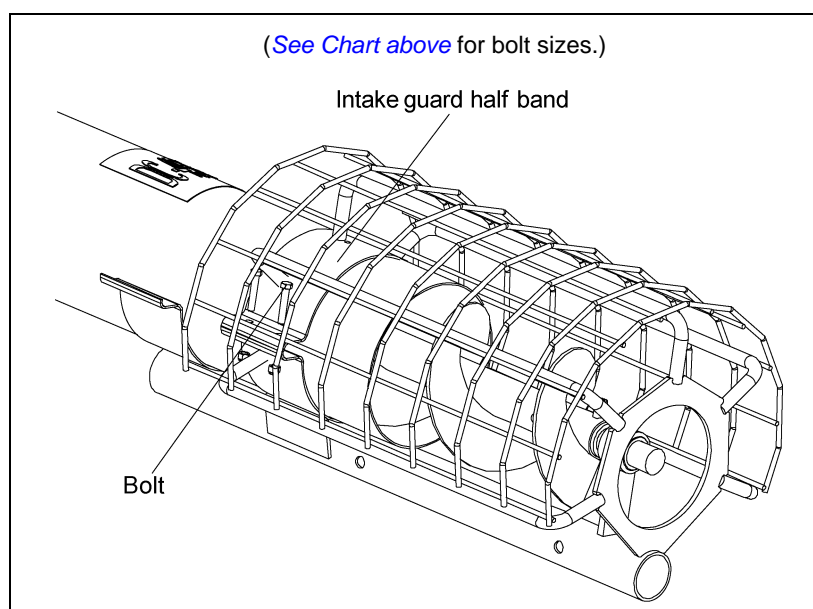

Figure 4X
3. Attach the intake guard to the tube using the proper hex bolts and nylock nuts through the half bands that are welded to the intake guard. (See Chart below and Figure 4X.)